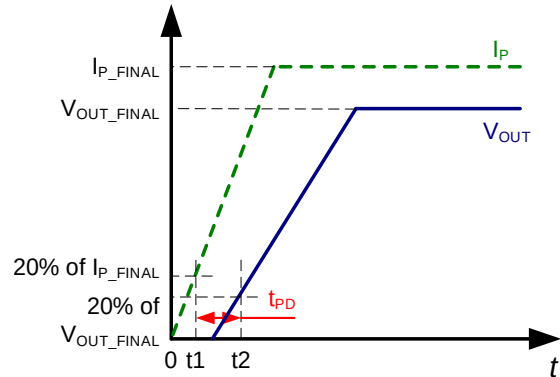

Figure 6: Propagation Delay (t_{PD})
2. t_2 : V_{OUT} reaches 20% of V_{OUT_FINAL} , as it corresponds to the applied I_P (see Figure 6).